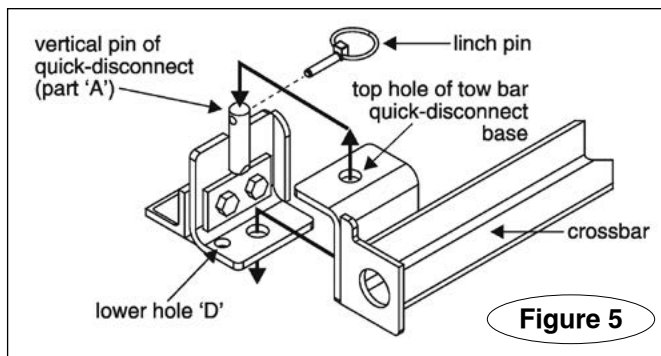

Figure 5
2. Now, test-fit the crossbar – lower the crossbar (Figure 5) over the quick-disconnects. The vertical pins at the top of both QDs should fit through the top holes at the ends of the crossbar (Figure 5), and the vertical pins at the bottom of the crossbar should fit through the lower holes on the quick-disconnects (Figure 5).
7. To remove the tow bar, remove the two lynch pins (Figures 5 and 6) at the top of both quick-disconnects, and lift the tow bar up and away.